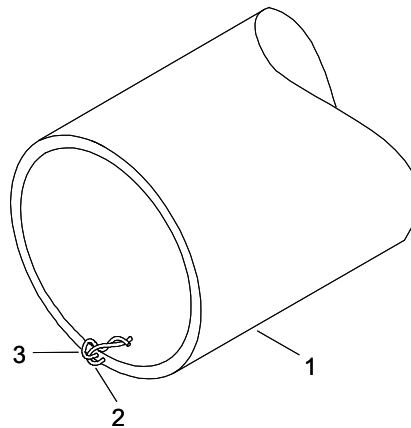

Figure 21. Hose Assembly Repair.
1. Place drip pan under hose assembly (Figure 21, Item 1) to be repaired.
2. Inspect hose assembly (Figure 21, Item 1) to identify the extent of damage to the hose assembly (Figure 21, Item 1).
3. Using a hacksaw, remove the damaged portion of the hose assembly (Figure 21, Item 1) by cutting the hose assembly (Figure 21, Item 1) on both sides of the damaged area. Discard damaged hose (Figure 21, Item 1).
4. Identify the metal wire coil (Figure 21, Item 2).
5. Using needle nose pliers, pull the metal wire coil (Figure 21, Item 2) approximately ½ in. out of the hose assembly (Figure 21, Item 1) so the metal wire coil (Figure 21, Item 2) is exposed.
6. Using needle nose pliers cut a piece of copper wire (Figure 21, Item 3) approximately 1-1/2 to 2 inches long.
7. Insert and center the piece of copper wire (Figure 21, Item 3) under the metal wire coil and into the hose assembly (Figure 21, Item 1) approximately $\frac{1}{2}$ in. away from the end of the metal wire (Figure 21, Item 2), to ensure copper wire will not slide off.
8. Using needle nose pliers, wrap the copper wire (Figure 21, Item 3) around the metal wire coil (Figure 21, Item 2) together, forming a pigtail.
9. Using needle nose pliers, carefully bend the copper wire (Figure 21, Item 2) inside the hose assembly (Figure 21, Item 1) so that it will contact the hose splice when assembled.